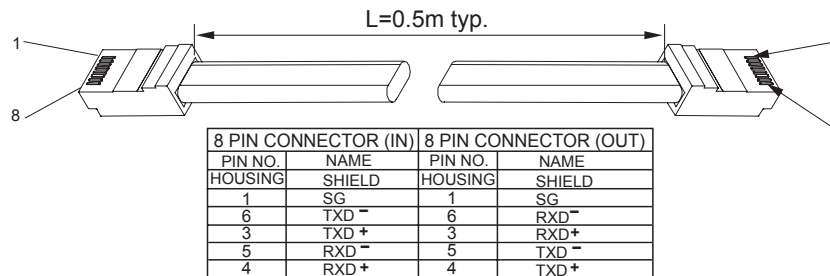

Fig.7-6: Serial link cable with RJ-45 shielded connectors (P/N: GEN/RJ45)
- Using the Linking cable supplied with each unit (refer to Fig.7-6), connect each unit OUT connector to the next unit IN connector.